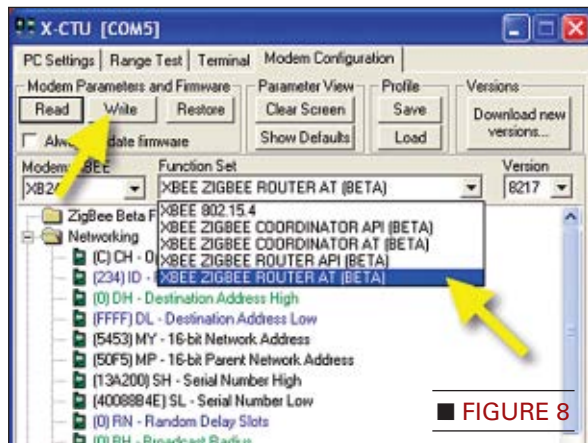

FIGURE 8
• **STEP 6:** Now you need to load the router firmware into all the remaining modules. As before, insert the module into the development board and hit the Read button. I found that after changing the module, the X-CTU software would no longer respond. If this happens, exit the program and restart it. For the routers in the Functions Set field, select the XBEE ZIGBEE ROUTER AT (BETA) setting, and then hit the Write button as shown in Figure 8.